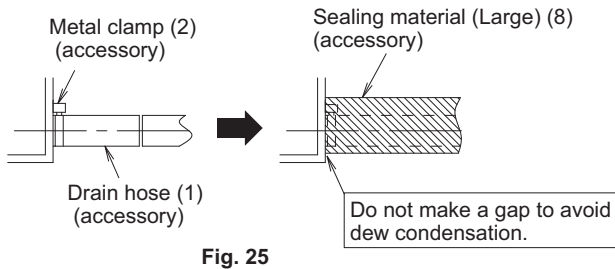
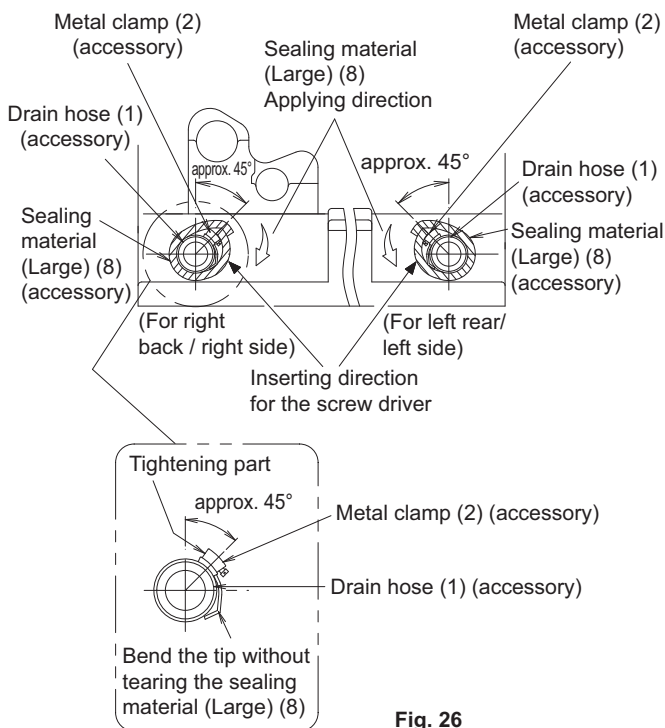

Fig. 25
Fig. 26
- Make sure to use the attached drain hose (1) and metal clamp (2). Also, insert the drain hose (1) into the root of the drain socket, and tighten the metal clamp (2) at the root of the drain socket tightly. (Refer to Fig. 25 and Fig. 26) (Install the metal clamp (2) so that the tightening part is in the range of about 45° as shown in the Fig. 26.) (Do not bond the drain socket and drain hose. If so, maintenance and inspection for the heat exchanger and others cannot be conducted.)
- Bend the tip of the metal clamp (2) so that the sealing material does not bulge. (Refer to Fig. 26)
- When performing insulation, wind the large sealing material (Large) (8) attached starting from the base of the metal clamp (2) and drain hose (1) in the direction of the arrow. (Refer to Fig. 25 and Fig. 26)